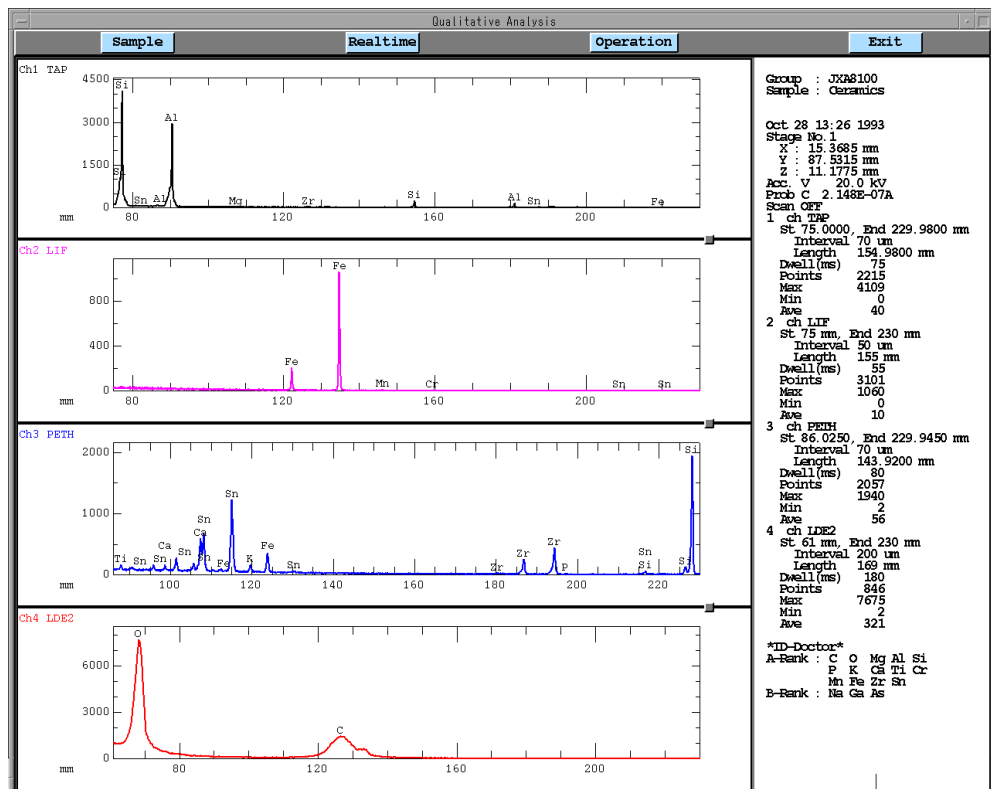

Fig. 18 Data display window
- ◆ Click on the Operation button in the Data display window of Fig. 18.